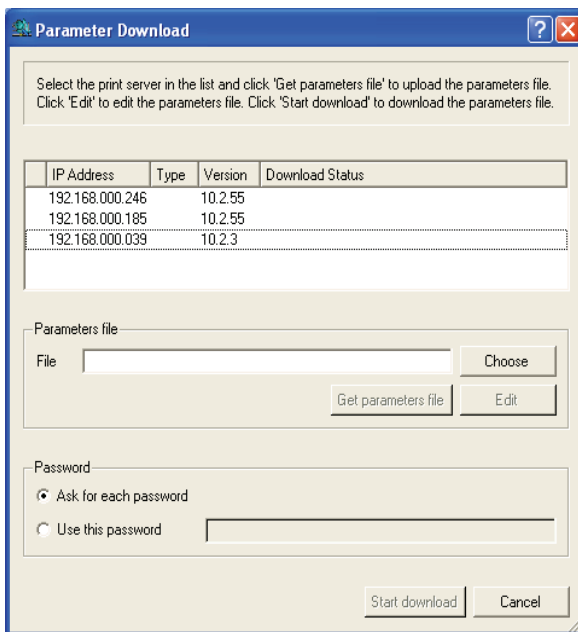

Fig. 22: PRINTSERVER-NetTool - Parameter Download
3. *Select Actions – Download – Parameters File from the menu bar. The Parameter Download dialog appears; see Fig. 22 ⇨  149.*
3. Select **Actions – Download – Parameters File** from the menu bar. The *Parameter Download dialog* appears; see Fig. 22 ⇔ 149.
*The **Parameter Download** dialog appears; see Fig. 22 ⇨  149.*